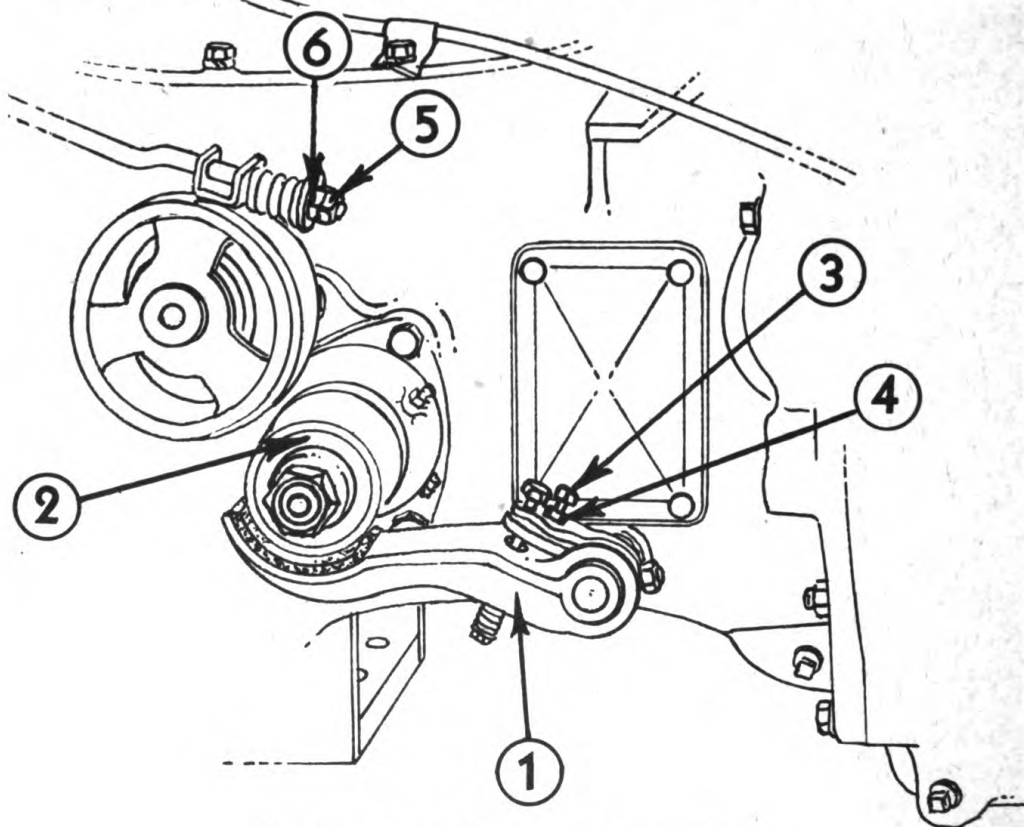

Fig. 39. Clutch Brake and Hand Brake
Following clutch adjustment, inspect clutch brake shoe 1, Fig. 39 to insure that it contacts the clutch brake sleeve (2) when the clutch is disengaged. Adjustment of the clutch brake shoe (1) is very simple. When clutch is engaged be sure that brake shoe does not make contact with clutch brake sleeve (2). This adjustment can be made by adjusting screw (3). Turning adjusting screw (3) to the right increases the clearance. When clutch is engaged this clearance should be $\frac{1}{8}$ inch. Lock adjustment securely by tightening nut (4).
1. Loosen lock nut 5, Fig. 39.
2. With brake lever in released position, set adjusting nut (6) so that the lining does not cause any drag on the drum.